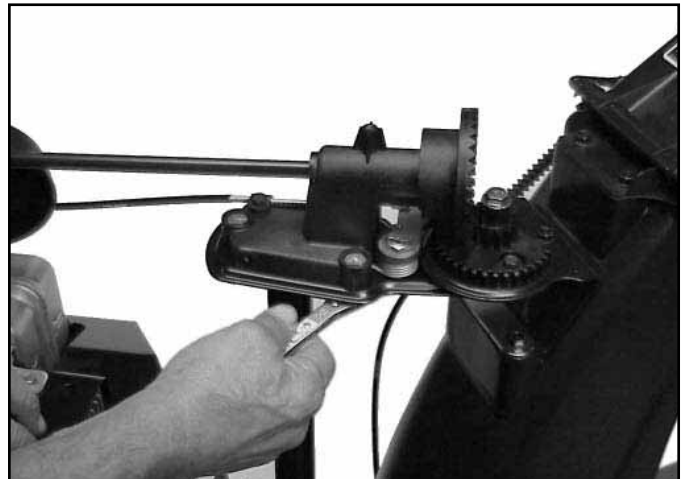

Fig 219
3. Remove the locknut and washer from the bottom of the 3 shoulder screws (Fig. 219).